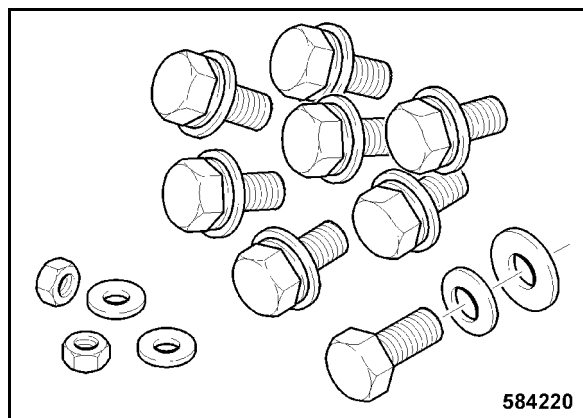

Fig. 202
- Make sure that all fastening screws, washers, spacers and nuts to fasten the cabin are available (Fig. 202).